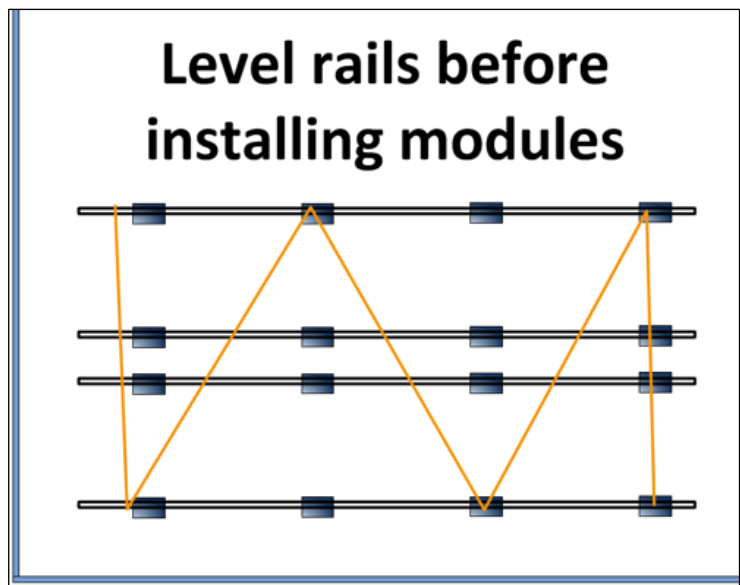

Fig. 9
- To ensure that the installed modules will appear as an even plane, SunPower recommends that you use a string line and level (or other method) to ensure that the top surface of the rails is even (Fig. 9).
**Important!** To ensure precise alignment with the finished array's footprint (perimeter), SunPower recommends that you cut rails only *after* you have adjusted them to an even height (Section 1.8.4, Fig. 9) and fully secured them to the attachments.